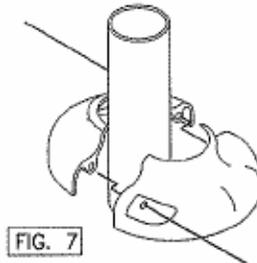

FIG. 7
If mounting plate covers (E3) are used, place halves around legs and secure with 2 (K) screws, see FIG. 7. Draw to a snug fit being careful not to over tighten.
If mounting plate covers (E3) are used, place halves around legs and secure with 2 (K) screws, see FIG. 7. Draw to a snug fit, being careful not to over tighten.